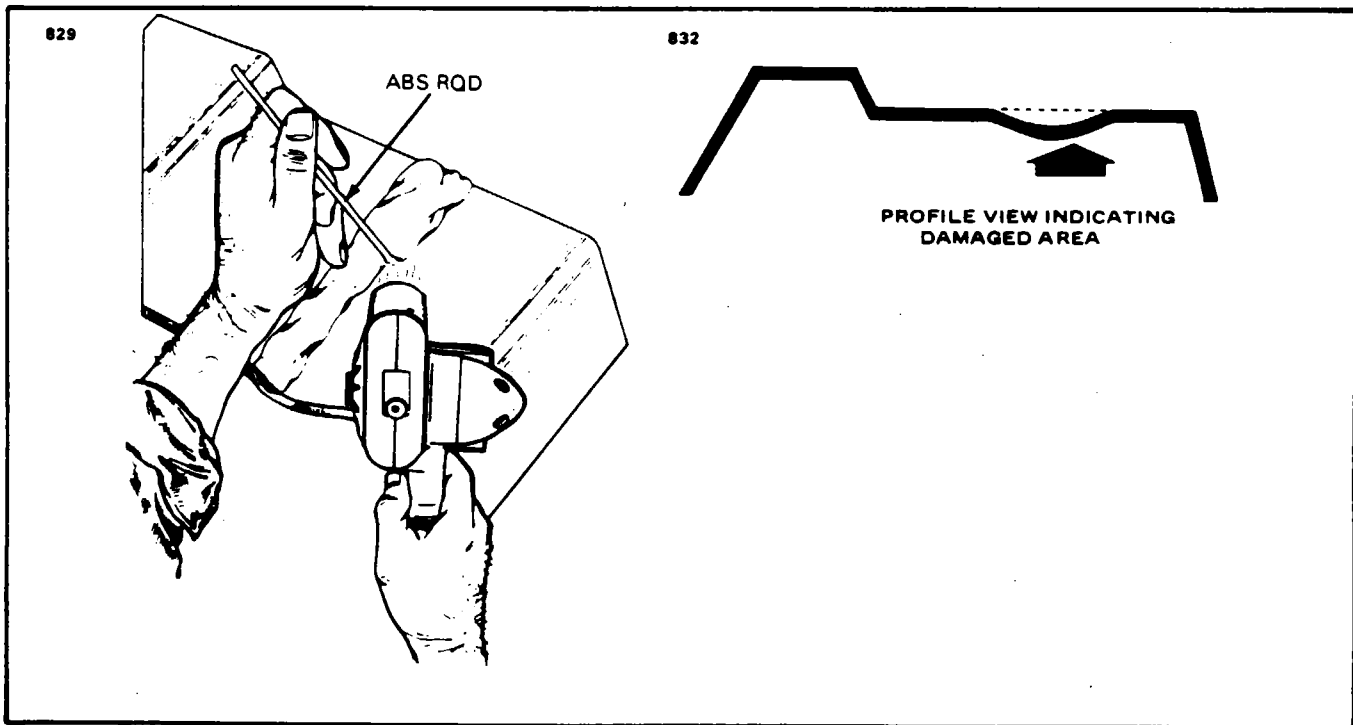

Figure 4-30. Repair of Impacted Damage
1. Stress lines produce a whitened appearance in a localized area and generally emanate from the severe bending or impacting of the material. (Refer to Figure 4-30.)